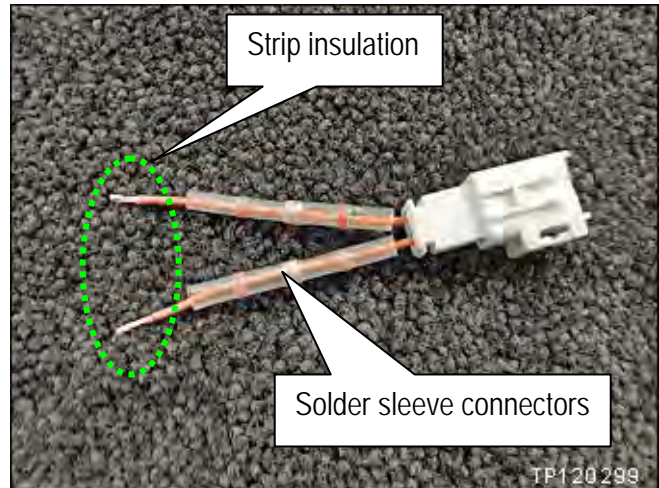

Figure CR15
13. Slide solder sleeve connectors onto the connector wires as show in Figure CR15.